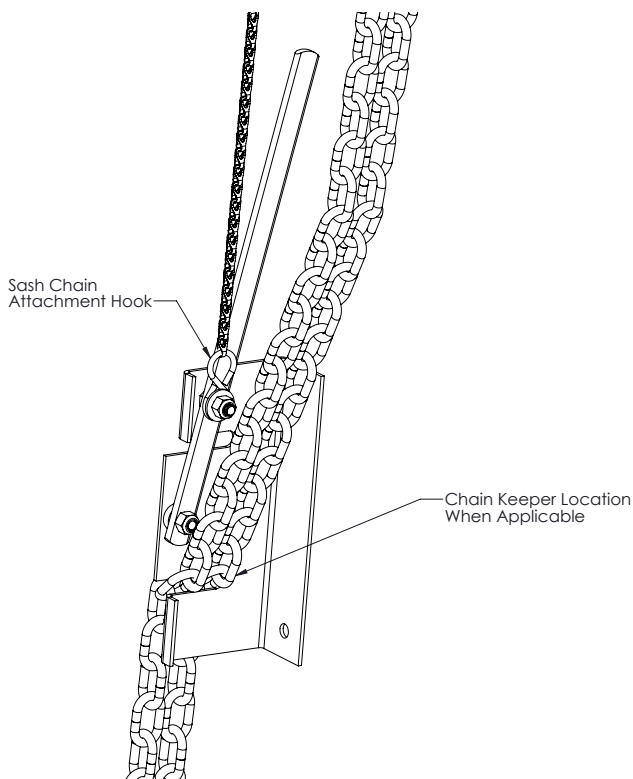

FIGURE 4
3. **Mount Manual Disconnect/Chain Keeper:** Using suitable hardware, mount the manual disconnect directly beneath the operator approximately four (4) feet above the floor. Install the sash chain on the spring that hangs from the operator and secure to the disconnect handle so that the handle is held vertically upright by the sash chain (Figure 4, page 5). Pulling down on the disconnect handle should disengage the motor from door assembly allowing for manual operation.
3. To return to electrical operation, return the disconnect arm to the upright position (Figure 4).